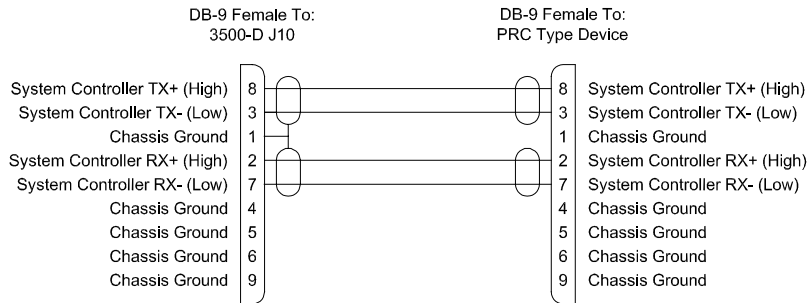

Figure 28. 3500-D RS-422 Serial Cable
- COM 3/PRC is the communications interface to a PRC type routing switcher system and is connected to a routing switcher with an AT Serial Modem cable (Part No. 81-9028-0400-0). If necessary, a cable up to 4000 feet in length may be fabricated in the field as shown in Figure 28.